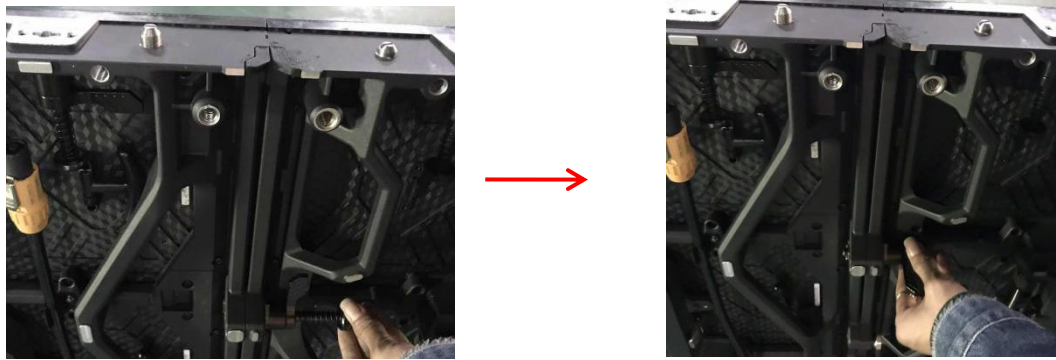

Figure 3.10 Left-right fast assemble lock
(3) Finally, tighten the lock cylinder and pull down Left-right fast assemble lock handles, as shown in Figure. 3.10: